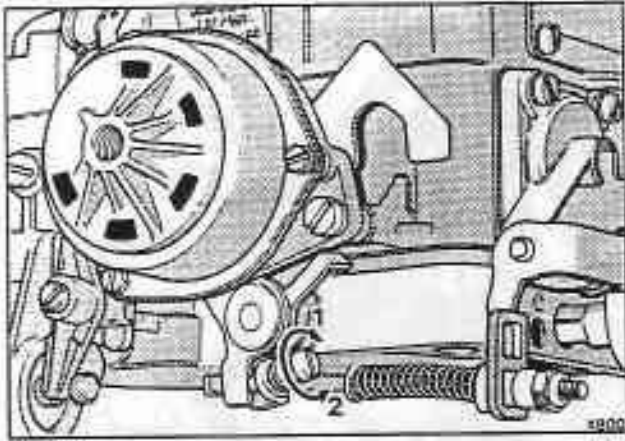

Fig. K11-28 Fast-idle adjustment
The cold start fast-idle setting of the carburettor is determined by a cam ratchet arrangement which holds the throttle off the idle stop during the warm-up period. The fast-idle setting can be adjusted through an adjustment screw linking the ratchet to the primary throttle spindle (see fig. K11-28). The setting procedure is as follows.
3. Adjust the fast-idle screw (see fig. K11-28) to give a fast-idle speed of 1600 rev/min \pm 50 rev/min. Allow at least 30 seconds for the speed to stabilize.